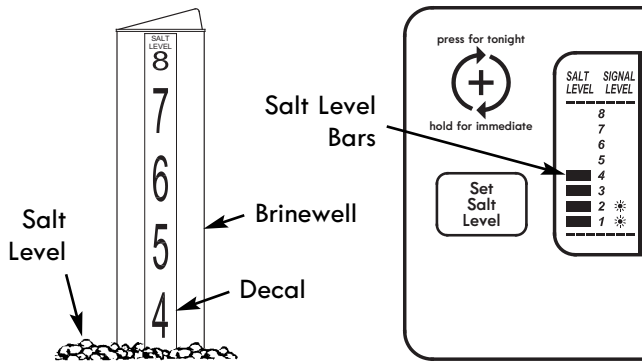

Figure 24
2. The yellow salt level decal, on the brinewell inside the tank, has numbers from 0 to 8 (see Fig. 24). Observe the highest number the leveled salt is at, or closest to.
3. Press the SET SALT LEVEL button as many times as necessary to make the salt level bars in the display (see Fig. 24) match the number on the decal. At level 2 or below, the salt level bars, signal level indicators and blue light will flash.